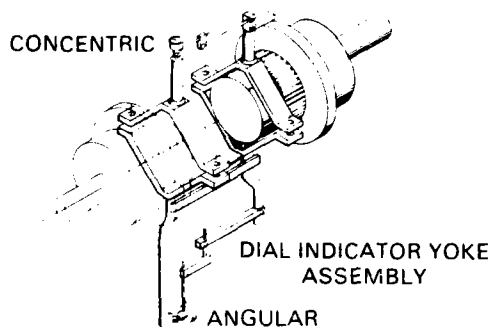

Fig. 11 Yoke assembly on coupling hub
2. **READINGS** Rotate shafts to four readings, 90 degrees apart. Place shims under driver mounting lugs to bring angular and concentric TIR within tolerance (Fig. 11). All measurements are made with mounting bolts properly tightened. Some situations may require shims under the pump.